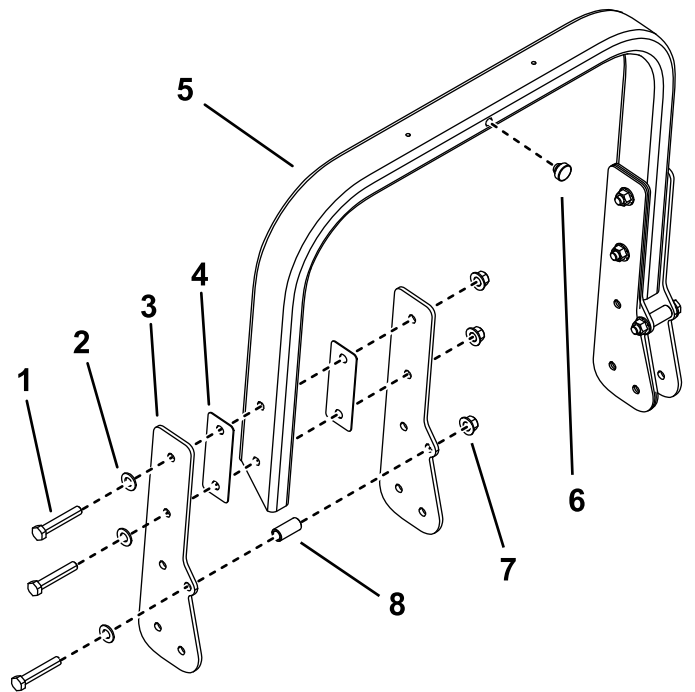

Figure 10
- Install 2 side plates to both sides of the roll bar using 3 bolts (1/2 x 3 inches), 2 flat spacers, 3 washers, 1 cylindrical spacer, and 3 locknuts (1/2 inch) on each side (Figure 10).
- Install a bumper in the center of the roll bar (Figure 10).